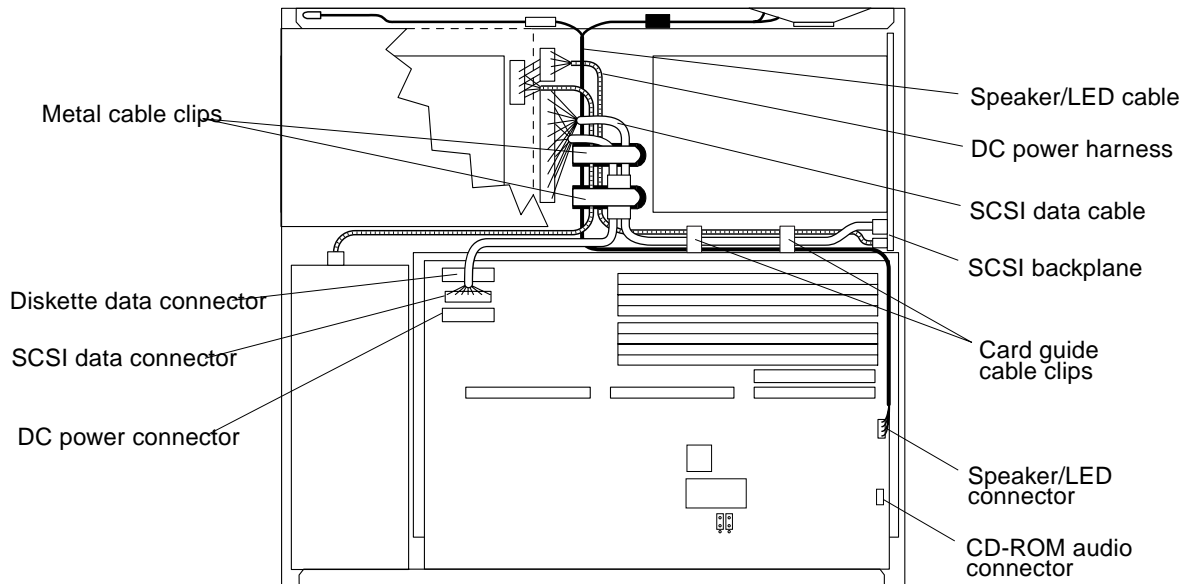

FIGURE 9-13 System Board Cable Connections
- 4. Unplug the DC power, SCSI data, diskette data, speaker/LED, and CD-ROM audio cables from the system board (see FIGURE 9-13).**